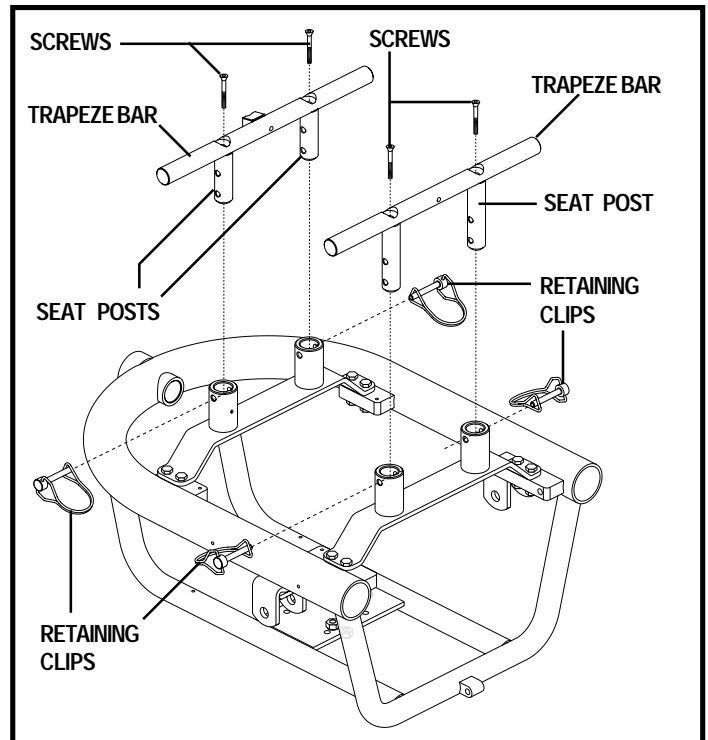

Figure 12A. Trapeze Bars Location
7. Loosen the screws that attach the trapeze bars to the seat posts. See figure 12A.
8. Remove the retaining clips that secure the seat posts to the power base. See figure 12A.